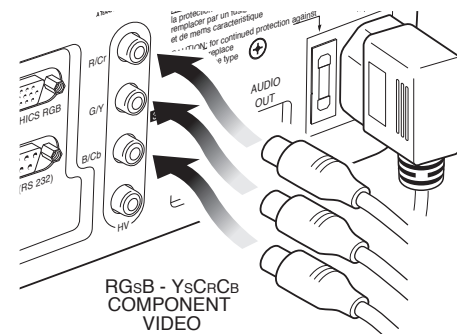

Fig. 20
This input is suitable for a RGB video signal, or for a Component (YCrCb) type, with composite synchronisation on the green signal (RGsB) or on the luminance (Y) signal (YsCrCb) through a cable with RCA/Phono type connector (*Fig. 20*).